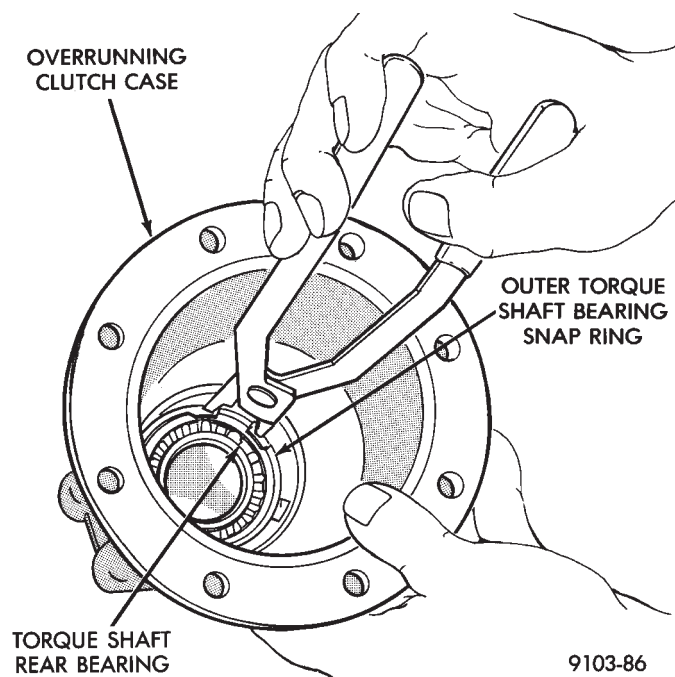
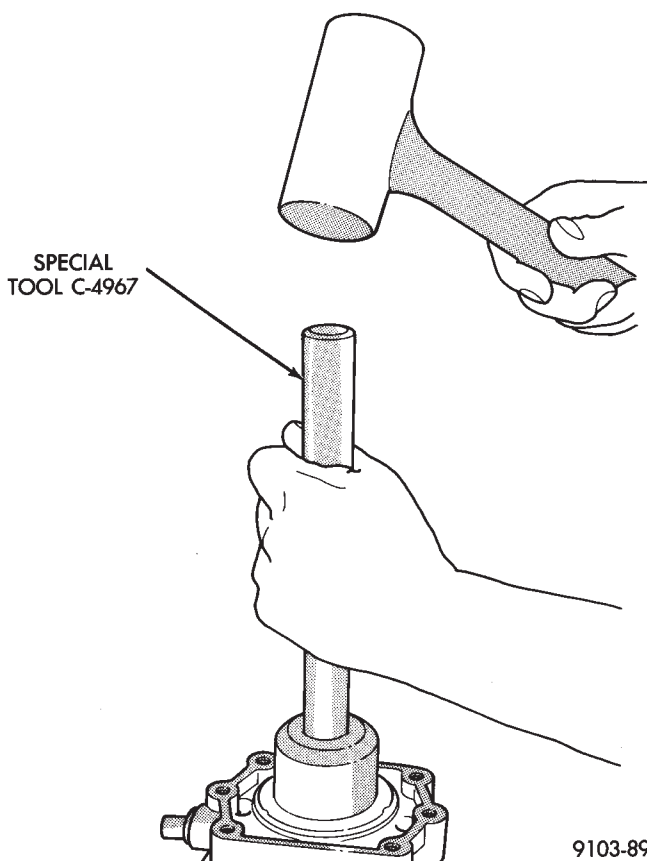

Fig. 22 Torque Shaft Rear Bearing Snap Ring
Fig. 23 Seal Removal
(11) Separate overrunning clutch case from torque tube.
(12) Remove rear bearing retaining snap ring in overrunning clutch case (Fig. 22).
(13) Remove rear torque shaft bearing.
(14) Drive out front overrunning clutch seal with special tool C-4967 (Fig. 23).